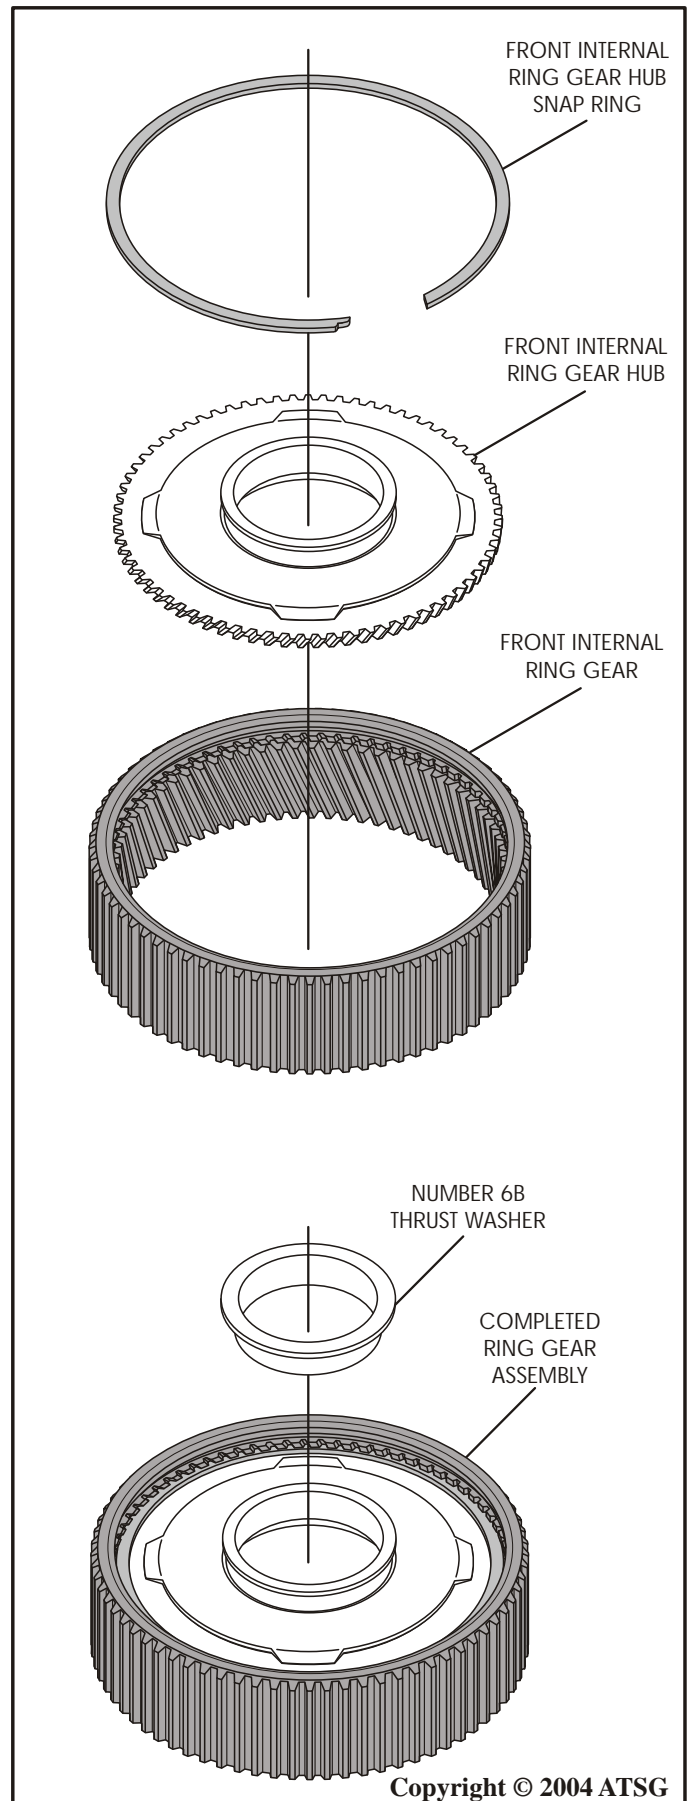

Figure 106
1. Inspect all rear ring gear parts thoroughly as shown in Figure 106.
2. Assemble the rear ring gear hub into the rear ring gear and install the snap ring, as shown in Figure 106.
3. Install the number 6B thrust washer into the ring gear hub, as shown in Figure 106, retain with small amount of Trans-Jel®.
4. Set completed rear ring gear and hub assembly, as shown in Figure 106, aside for the final assembly process.